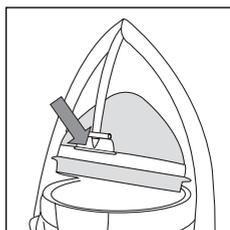

fig. 2
3. Insert the cover into the lever ring and push as far as it will go, making sure the tab on the ring fits into the hole in the cover (fig. 2).